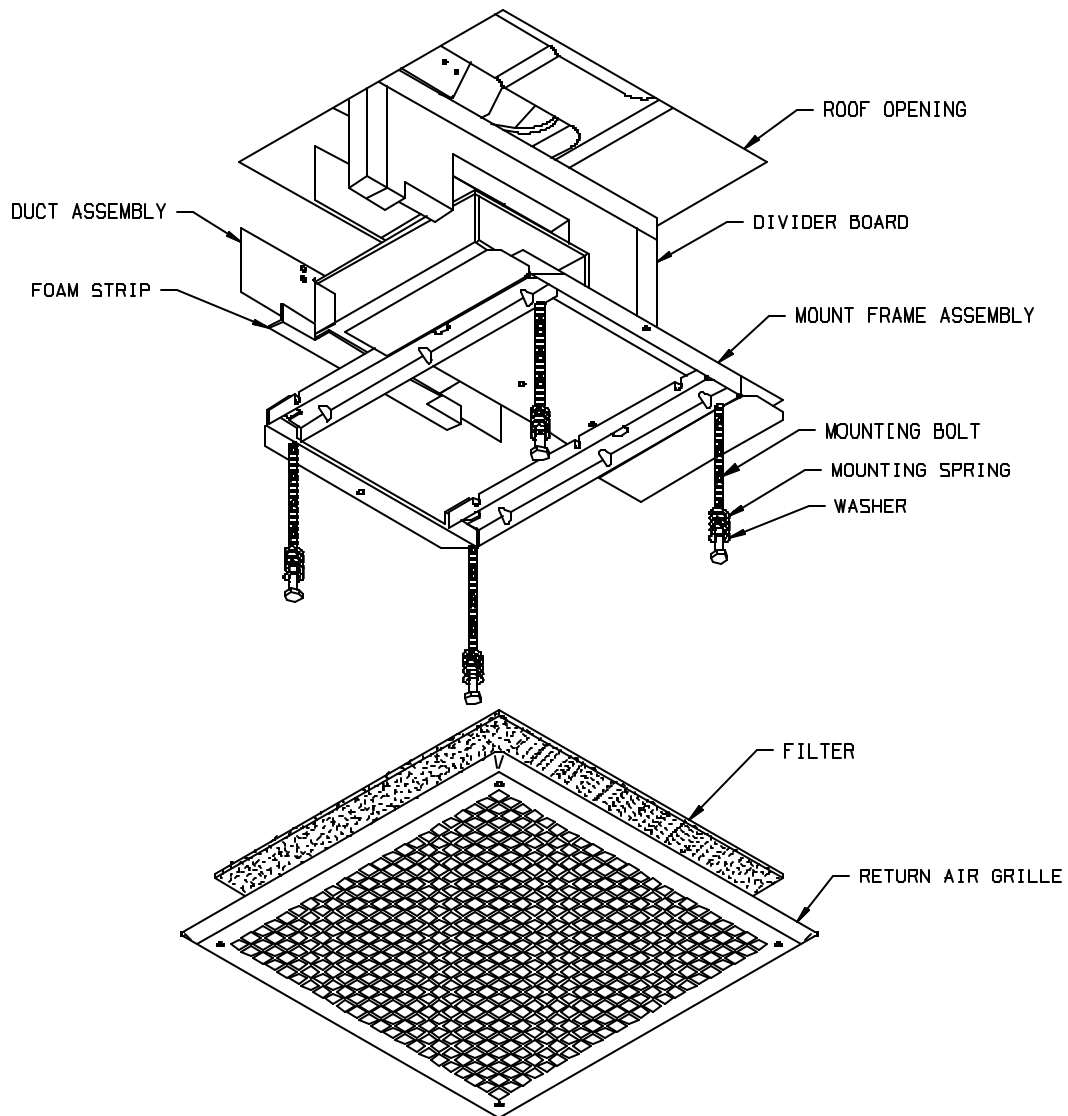

FIGURE 5
3. Insert the duct assembly into the divider board cutout. Gently ease the duct assembly forward until the flange contacts the front edge of the roof opening. Align the bottom of the supply duct with the bottom edge of the ceiling duct opening. Secure the duct with two screws provided in the mount kit small parts package. Using the adhesive backed foam strip found in the mount kits, seal off the gap which exists at the bottom of the duct flange where it abuts the bottom ceiling duct opening. See Figure 5.
4. Align the welded steel mount frame assembly under the opening. The insulated and closed end of the assembly must be under the upper unit blower. Install a washer and mounting spring on each mounting bolt and guide each bolt through the frame assembly channel into the threaded receivers in the upper unit basepan. The divider board should be at the very edge of the mount frame assembly and positioned to be perpendicular to the assembly. Start the bolts by hand to insure that they are not cross-threaded. Tighten the bolts in a staggered pattern until each mounting spring has just achieved closure. See Figure 5.
Place filter on back side of return air grille. Lift grille into position, centered over roof opening. Insert one screw into each corner of the grille and secure to ceiling. See Figure 5.